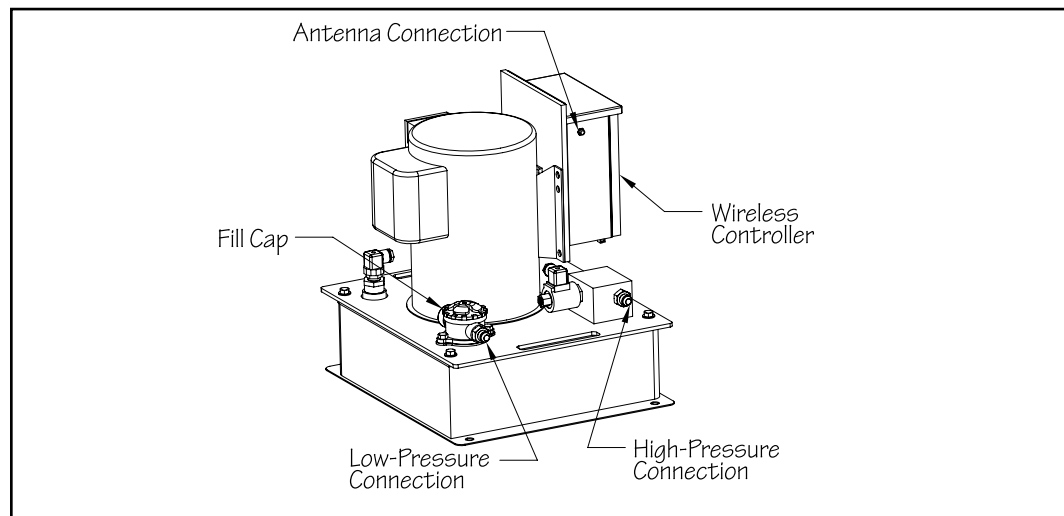

Fig. 12.2
- 12.1 Turn the circuit breaker for the Power Unit off. Connect the hydraulic hoses from the Fastlane Pro to the Power Unit. The low-pressure hose (connected to the Fastlane Pro) will have red tape wrapped around the hydraulic fitting. This hose will connect to the port on the fill cap. The high-pressure hose will connect to the port on the high-pressure manifold (blue box) (See Fig 12.2).